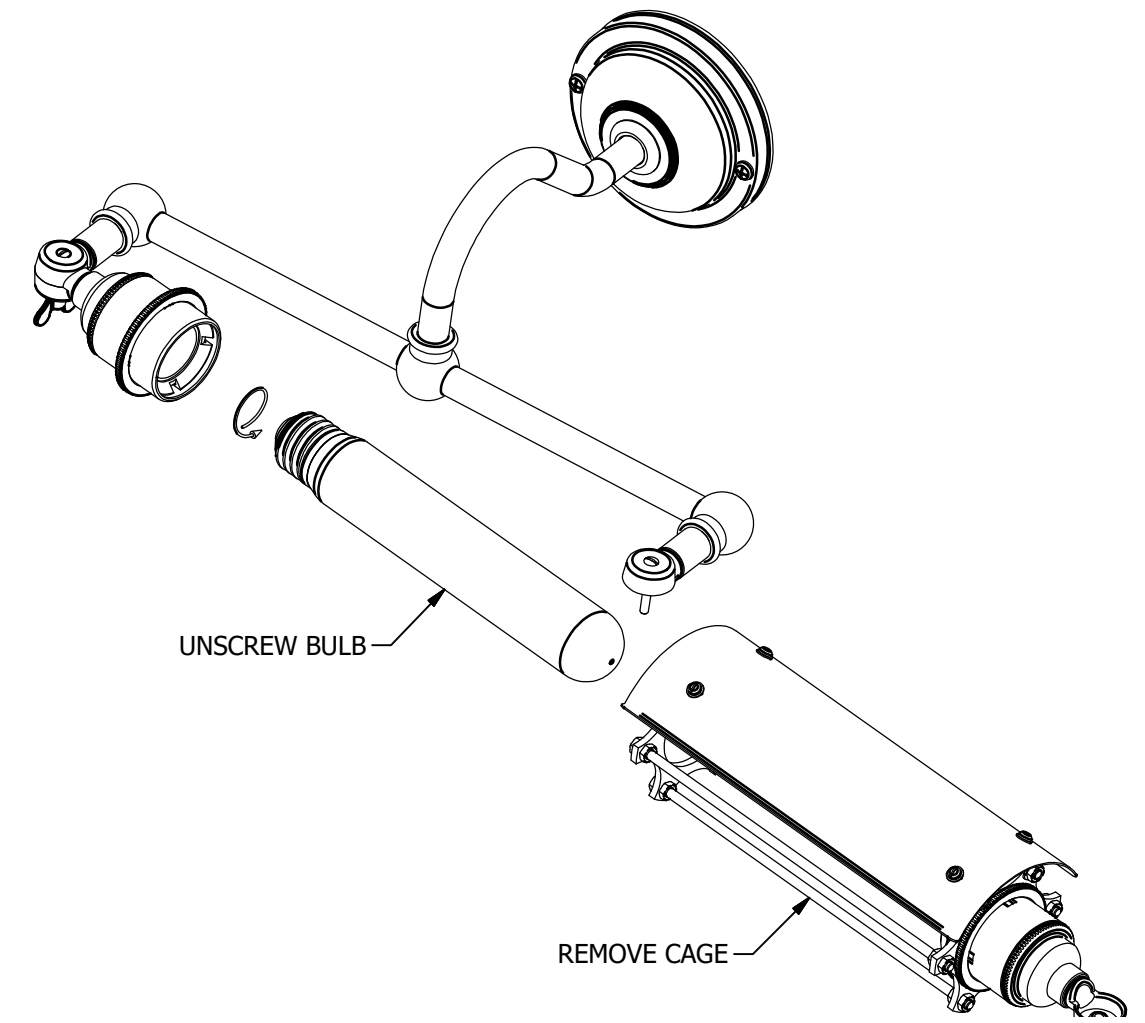

Figure 3.
- 4) Slide cage assembly over and away from bulb. (Figure 3.)